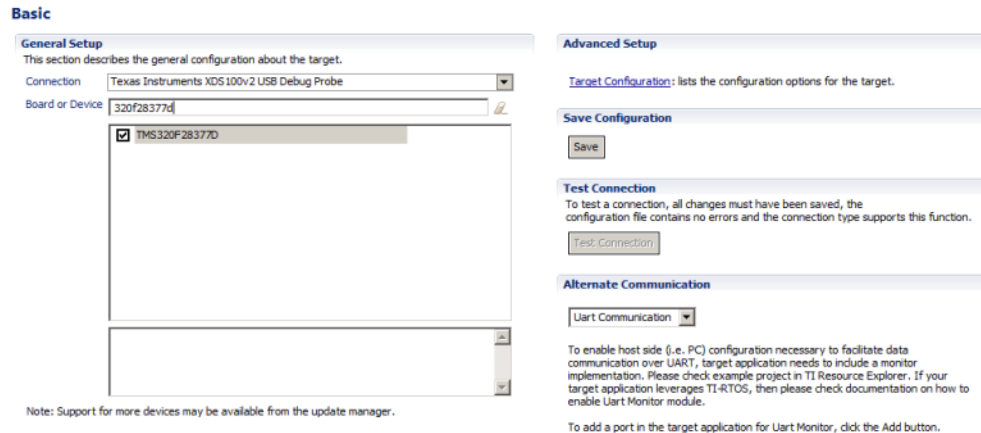

Figure 12. Configuring a New Target
6. This should open up a new tab as shown in Figure 12. Select and enter the following options: